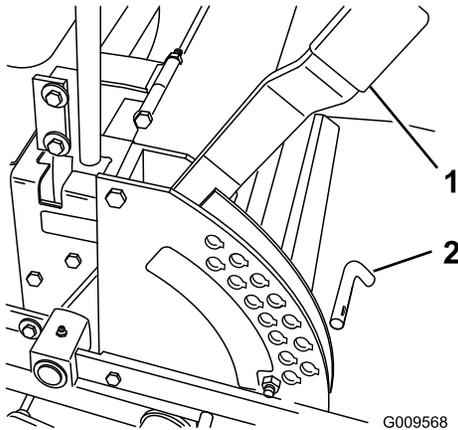

Figure 18
1. Raise the height-of-cut lever to the transport position (also the 127 mm (5 inch) cutting height position) (Figure 18).
2. To adjust, remove the pin from the height-of-cut bracket (Figure 18).
3. Select a hole in the height-of-cut bracket corresponding to the height-of-cut desired and, insert the pin (Figure 18).